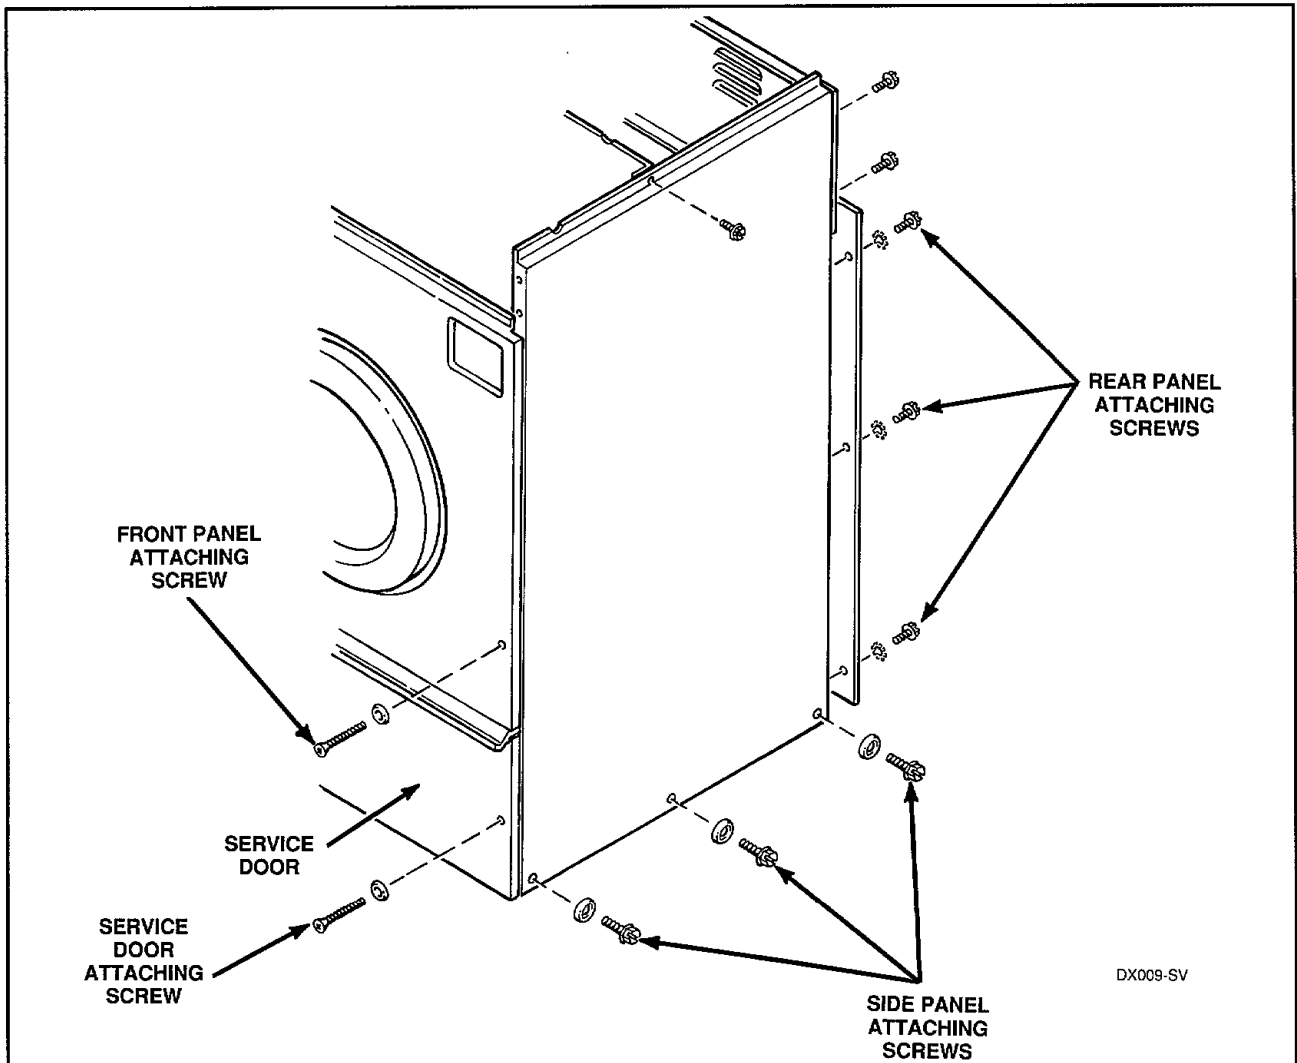

Figure 19
- c. Remove screws holding rear panel to washer side panels and remove rear panel, *Figure 19*.
- d. Remove two screws and washers holding service door to washer side panels and remove door, *Figure 19*.
- g. Remove two front panel attaching screws and remove screws holding side panels to washer base, *Figure 19*.